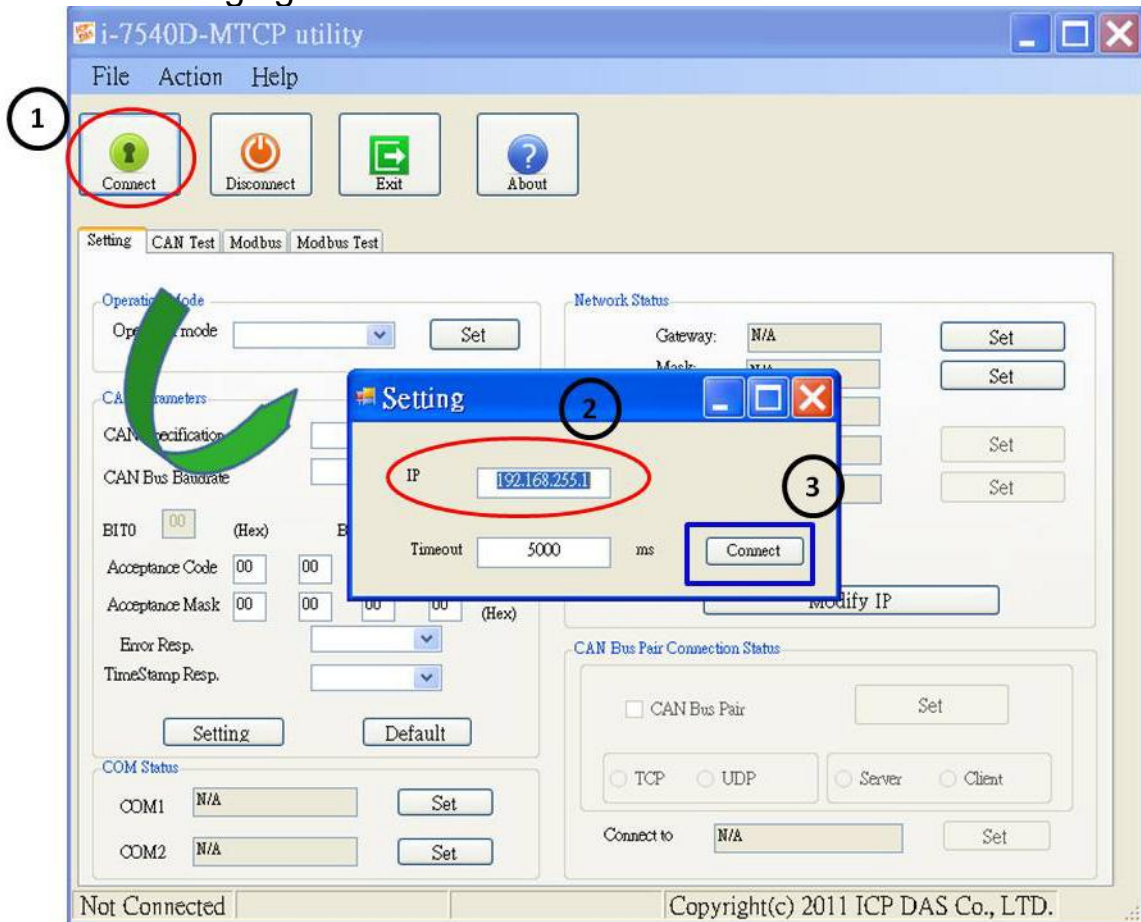

Figure 3-6: “Successful Completion of the Installation” dialog
**Step 7:** After finishing the installation of the I-7540D Utility, users can find it as shown in figure 3-6.